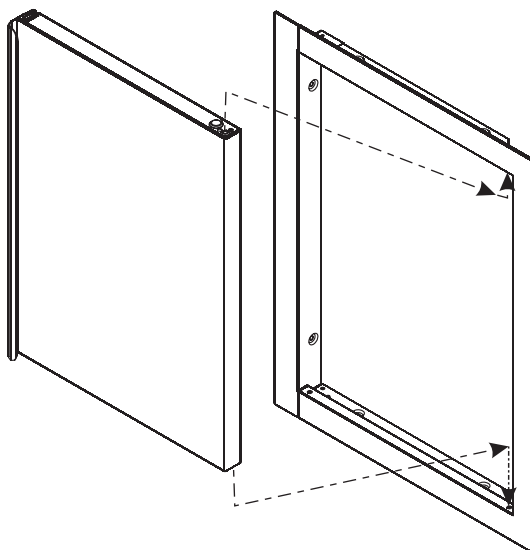

Figure 4
4. Secure the BDA Door to the door frame by inserting the spring loaded pin in the bottom frame hole. Locate the upper hole in the frame then push on the spring loaded pin on the door and insert the door in the frame. Figure 4.
4. Secure the Doors to the door frame by inserting the spring loaded pins in the bottom frame holes. Locate the upper hole in the BDA frame and push on the spring loaded pin on the door and insert it into the frame. See Page 20, Figure 4.